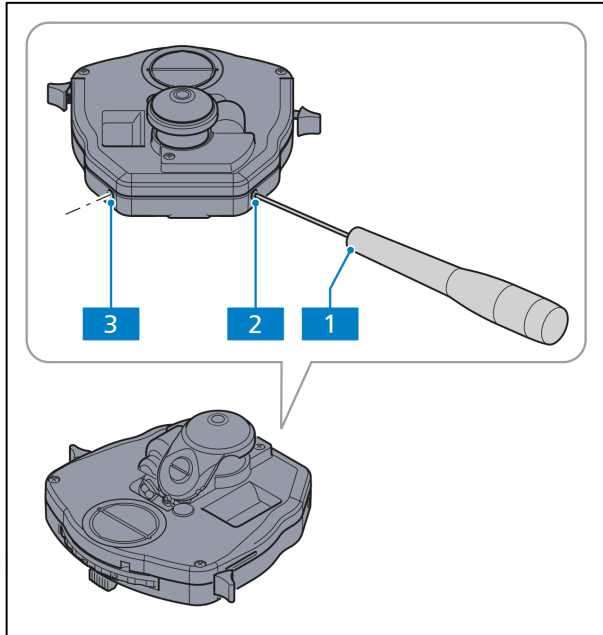
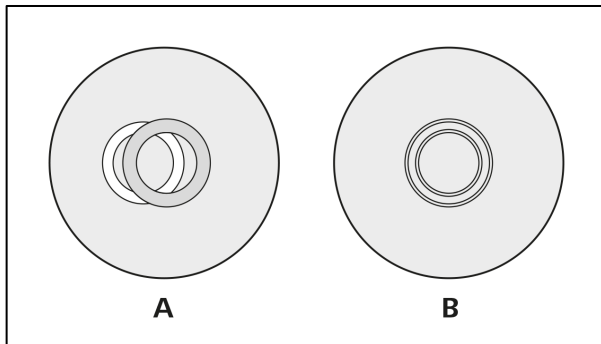

Fig. 4-6 Centering the darkfield diaphragm on the condenser, achromatic-aplanatic 0.9 H D PhC DIC
Fig. 4-7 Centering the annular phase diaphragm (light-colored, in the condenser) and the phase ring (dark-colored, in the object)
(3) Setting up transmitted light darkfield microscopy
- If the darkfield diaphragm needs to be centered, use two Allen wrenches (AF 1.5) (Fig. 4-6/1) and adjust the two centering screws (Fig. 4-6/2 and 3) until the objective exit pupil appears consistently dark. Remove the Allen wrenches (AF 1.5) from the condenser after finishing the centering procedure.
- If the overlap is not exact (Fig. 4-7/**A**), the lighter annular diaphragm must be re-centered with the aid of two Allen wrenches (AF 1.5) (Fig. 4-6/**1** and **4**). Adjust the two centering screws (Fig. 4-6/**2** and **3**) so that you achieve a full overlap with the darker phase ring (Fig. 4-7/**B**).
A complete phase contrast can only be achieved when the light-colored annular diaphragm (in the condenser) overlaps exactly with the dark-colored phase ring (in the objective) in the illumination beam path (Fig. 4-7/**B**).